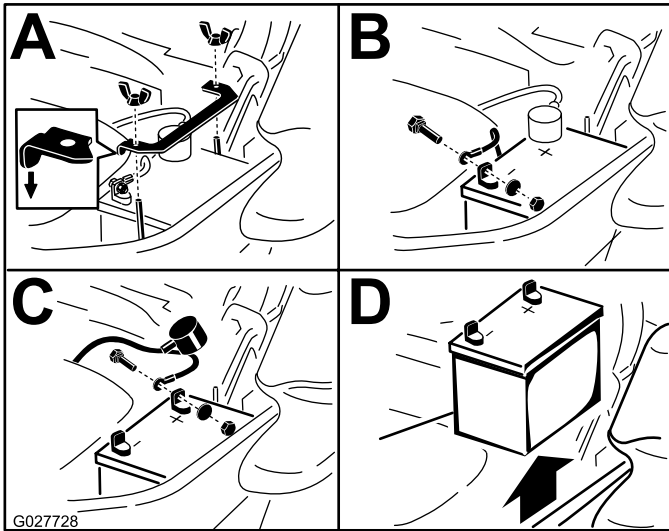

Figure 51
3. First disconnect the negative battery cable (black) from the negative (-)(black) battery terminal (Figure 51).
4. Slide the red terminal boot off the positive (red) battery terminal and remove the positive (+)(red) battery cable (Figure 51).
5. Remove the wing nut securing the battery clamp (Figure 51).
6. Remove the clamp (Figure 51).
1. Position battery in the tray with the terminal posts opposite from the hydraulic tank (Figure 51).
4. Secure the cables with 2 bolts, 2 washers, and 2 locknuts (Figure 51).
6. Install the clamp and secure it with the wing nut (Figure 51).